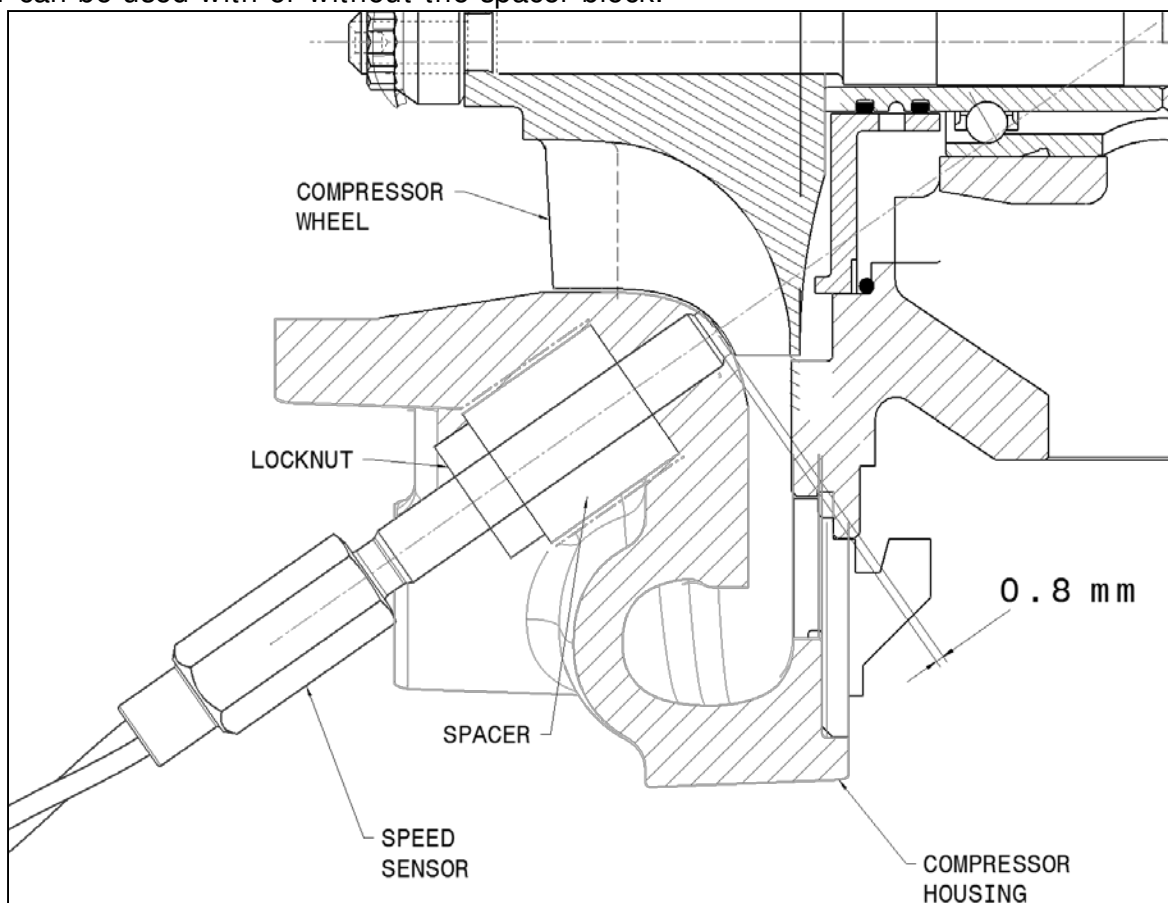

Fig. 10
10. Setting the sensor depth: if the turbocharger is still in the vehicle, ensure that there is enough space to adjust the sensor by turning it in and out. Also ensure there is sufficient space to turn the compressor wheel by hand. If not, remove the turbocharger from the vehicle. Slowly turn the sensor clockwise, while simultaneously spinning the wheel very slowly. Turn the sensor inwards, just until the tip contacts the edge of a compressor wheel blade (see figure 10). Be extremely careful not to jam the wheel into the sensor – the blades or sensor could be damaged. You should be able to feel a SLIGHT resistance and noise while gently turning the wheel as it contacts the sensor. Then turn the sensor back counterclockwise, approximately **1.6** full turns. This sets the sensor depth correctly. The nominal distance from the blade edge is 0.8mm. The sensor thread pitch is 0.5mm/thread ( $0.5\text{mm/thread} \times 1.6 \text{ threads} = 0.8\text{mm}$ ).
**NOTE:** If the Garrett Turbo Speed Sensor Kit is being used with an older Garrett (T-Series) turbo, or with a non-Garrett unit, refer to figure 10 below for general placement of the sensor. It should always be installed at 0.8mm clearance from the wheel. The sensor hole should be drilled at an angle, placing the sensor near the base of the wheel below the level of the splitter blades, in order to accurately measure the speed. On custom applications the sensor can be used with or without the spacer block.